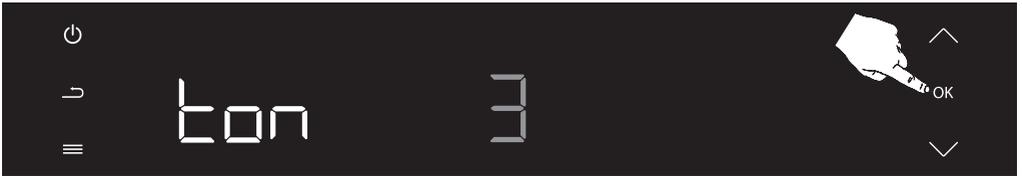

Figure 98
Press the confirmation button (OK) once to confirm the selected tone. (see figure 98)